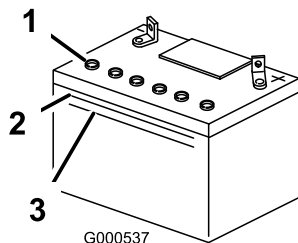

Figure 44
- Look at the side of the battery. The electrolyte must be up to the **upper** line (Figure 44). Do not allow the electrolyte to fall below the Lower line (Figure 44).
- Remove the vent caps from the battery (Figure 44).
- Slowly pour distilled water into each battery cell until the electrolyte level is up to the Upper line (Figure 44) on the battery case.
- Wait five to ten minutes after filling the battery cells. Add distilled water, if necessary, until the electrolyte level is up to the Upper line (Figure 44) on the battery case.